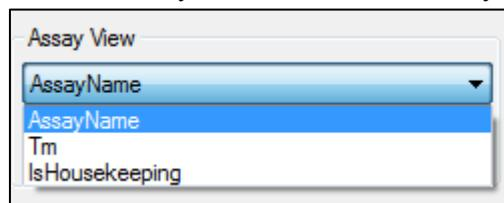

Figure 37. Assay View list.
- i. Select the assay attribute from the “Assay View” list (Figure 37).